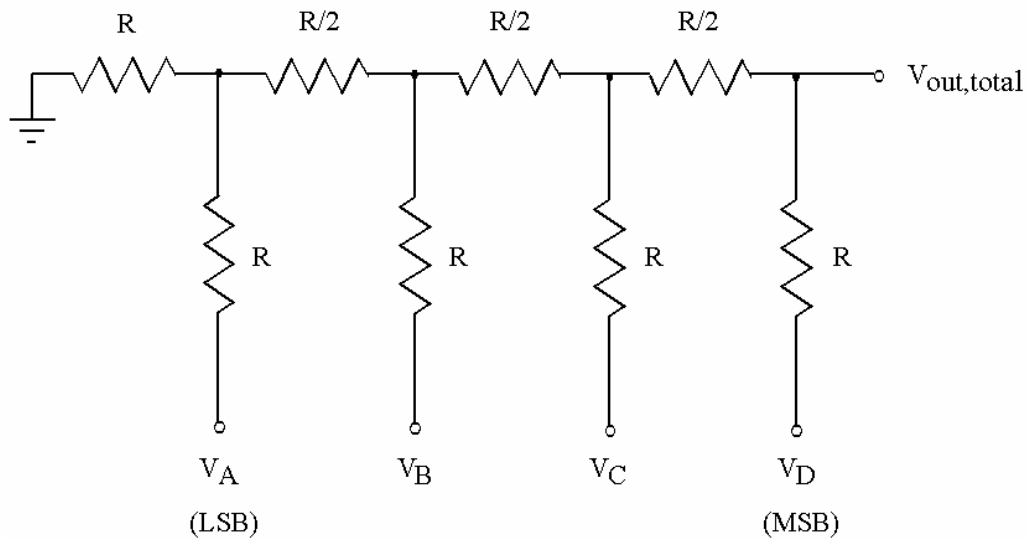

Figure 3. 4-bit R–R/2 D/A converter showing the most significant bit (MSB) and the least significant bit (LSB).
1. Build the 4-bit R–R/2 D/A converter shown in Figure 3. Let  $R=20\text{ k}\Omega$  – *choose resistors with the same tolerances for consistency*. Place the LSB towards the top of the breadboard for expansion capability.
2. Generate one of the binary inputs from question 3 of the *pre-lab* exercise using the dc power supply and **(7) measure the open-circuit output voltage relative to ground of the D/A converter. Repeat the measurement for the other binary input from the *pre-lab*.**
3. Insert one of the  $R_{load}$  load resistors (see Appendix) from the *pre-lab* exercise between the output of the D/A converter and ground, as shown in the *pre-lab* circuit. **(8) Measure the output voltage of the D/A converter using the DMM for each of the input combinations from step 3. Repeat using the other value of  $R_{load}$  from the pre-lab exercise.**